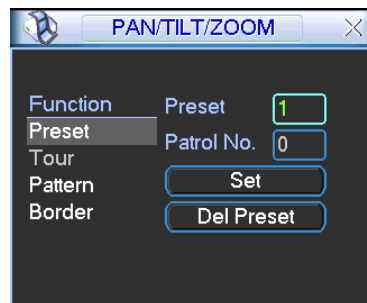

Figure 4-39
Click the “set” button illustrated in Figure 4-36. This will generate the interface shown in Figure 4-39.
- The following setups are usually operated in Figure 4-36, Figure 4-37 and Figure 4-39.
As shown in Figure 4-39, input preset number in the blank, and click preset button.